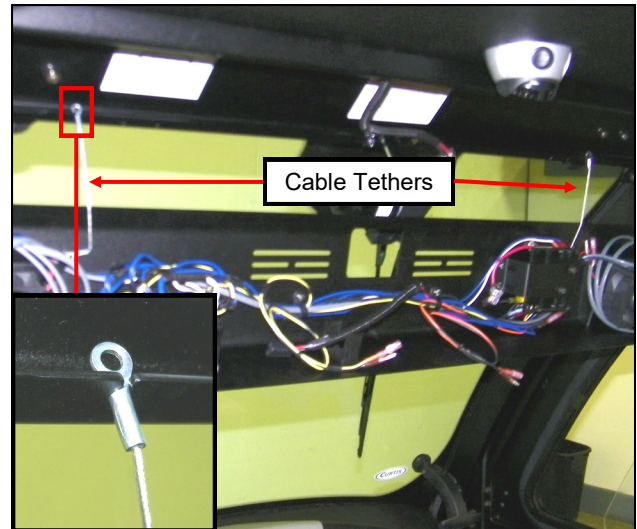

Fig. 2.2
- 2.2 Install the end of each Tether from the Console into the Windshield Support and allow the Console to hang. See figure 2.2.